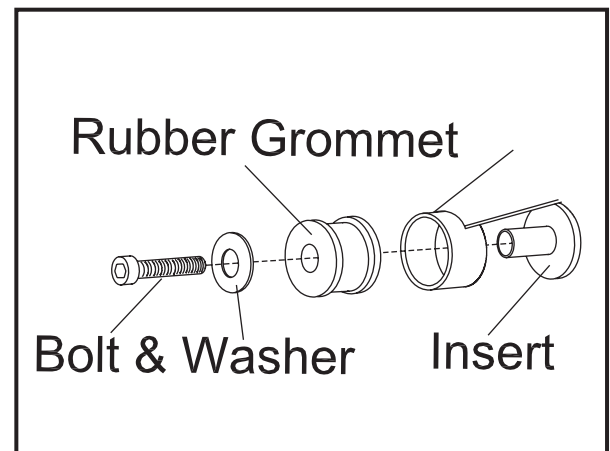

Fig. 4
10. Remove rubber grommet and insert from stock lower muffler chassis mount and install on performance tailpipe lower chassis mount. (See Fig. 4)